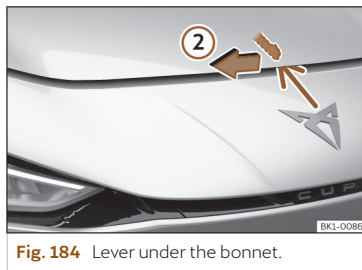

Fig. 184 Lever under the bonnet.
- To lift the bonnet, press towards the left on the lever located under the bonnet, in the centre >>> **Fig. 184** ②. The fastening hooks are unlocked.